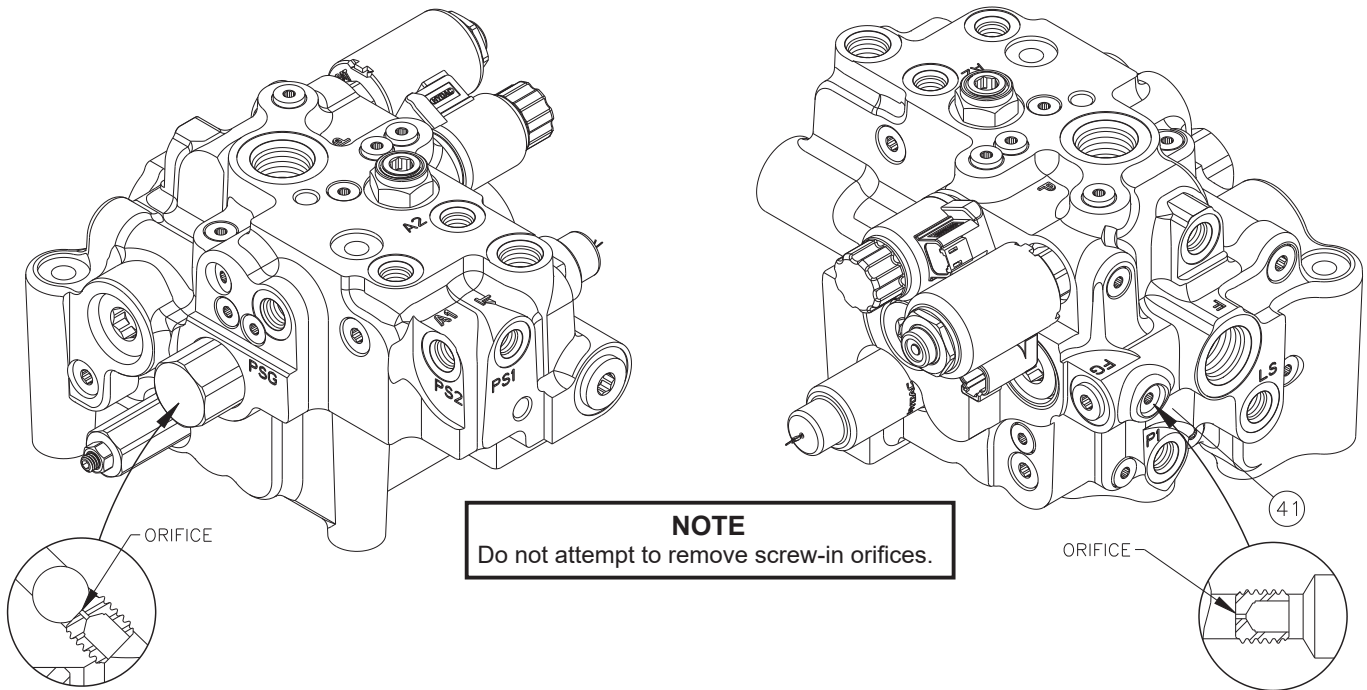

FIGURE 1
This literature may service similar designs of this charging valve. The components shown in Figures 1 and 2 may appear different than what is found in your valve.
1. Inspect internal orifices shown in Figure 1 on page 3 to be sure they are free of obstruction or contamination. Introduce pressurized air into these cavities to clear any contamination or debris. **NOTE: Do not attempt to remove the screw-in orifices.**
2. Install new o-ring (42) on plug (41). Install plug (41) in housing (43), cavity 9. Torque plug (41) 13.6-19.0 N·m (10-14 lb·ft).
3. Install new o-ring (21) on plug (29). Install plug (29) in housing (43), cavity 4b. Torque plug (29) 94.9-101.7 N·m (70-75 lb·ft).
4. Install new quad ring (23) on spool (28). Install new o-ring (21) on plug (26).
5. Lubricate spool (28) with clean system fluid. Install spool (28), spring (27), and plug (26) in housing (43), cavity 4a. Torque plug (26) 94.9-101.7 N·m (70-75 lb·ft).
6. Install new o-ring (21) on plug (25). Install plug (25) in housing (43), cavity 6b, and torque 94.9-101.7 N·m (70-75 lb·ft).
7. Install new quad ring (23) on spool (24). Install new o-ring (21) on plug (20).
8. Lubricate spool (24) with clean system fluid. Install spool (24), spring (22), and plug (20) in housing (43), cavity 6a. Torque plug (20) 94.9-101.7 N·m (70-75 lb·ft).
9. Install two new back-up rings (17) and new o-ring (18) on shuttle valve (19). Note, new back-up rings (17) and o-ring (18) are in a separate bag within the repair kit.
10. Install shuttle valve assembly (16) in housing (43), cavity 8. Use a hex key wrench and torque shuttle valve assembly (16) 5.4-6.8 N·m (4-5 lb·ft).
11. Install new o-ring (15) on plug (14). Install plug (14) in housing (43), cavity 7, and torque 27.1-32.5 N·m (20-24 lb·ft).